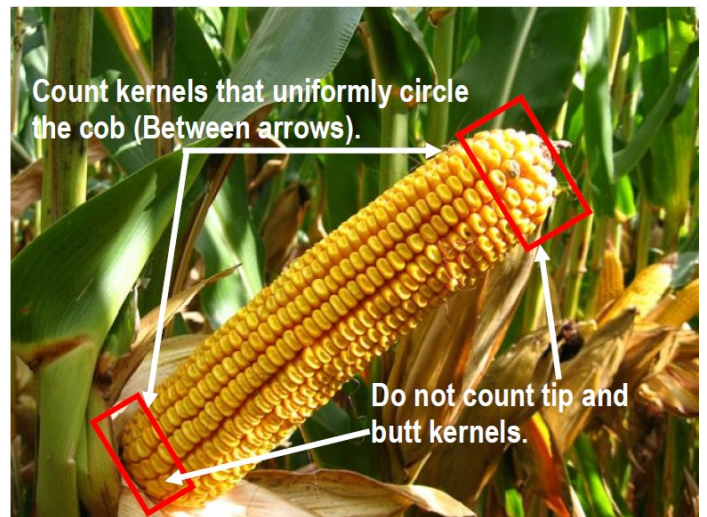

Figure 1. Example of normal ear and kernels to be counted.
Step 1. At each sample site, measure 1/1000th of an acre (Table 1). Don't sample nubbins, abnormal ears, aborted kernels or count dropped ears or ears on severely lodged plants. Count kernels where there are complete rings of kernels around the cob and avoid counting kernels on the extreme ends of the ear (Figure 1).1